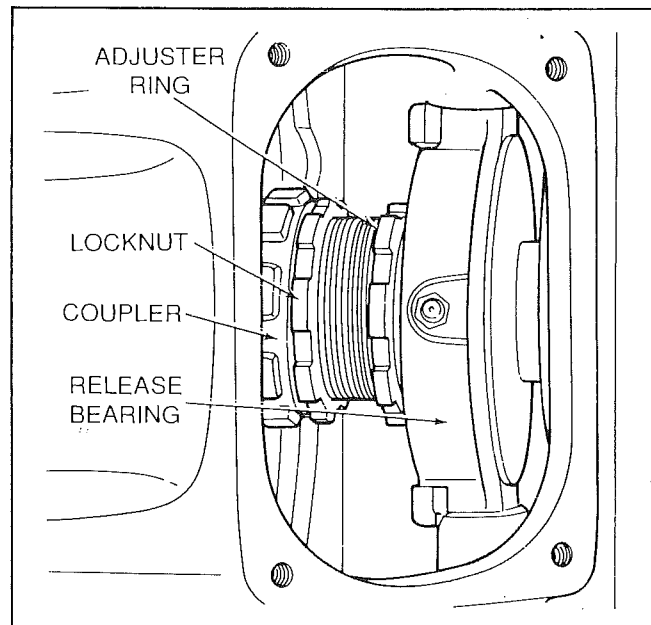

Figure 11-10. Release Bearing and Coupler
1. Using 2 spanner wrenches, loosen the release bearing locknut (Fig. 11-10). Thread the locknut back toward transmission a small distance to ensure that it will not interfere with the adjustment process.